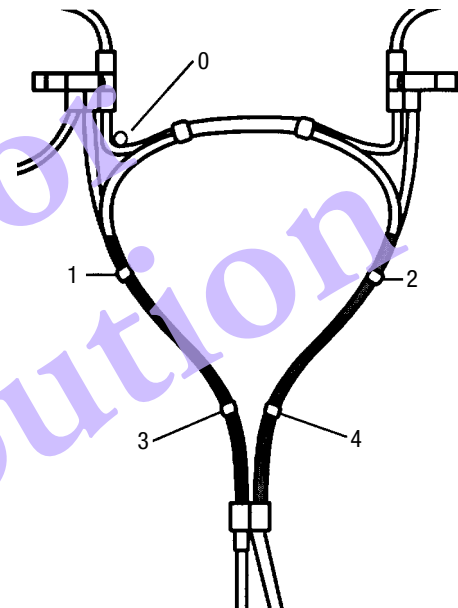

Figure 5-6: BMP Set clamp points 0 through 4
During the BMP procedure, you must place hemostats at various clamp points on the BMP set. The following instructions tell you when to place and remove the hemostats; Figure 5-6 illustrates the clamp points (0 through 4) as they are referred to in the instructions.
- 1** Clamp the BMP set at clamp point 0 (see Figure 5-6).
- 8 Remove the hemostat from clamp point 0 (see Figure 5-6).
- 10 Place a hemostat at clamp point 1 (see Figure 5-6).
During processing, the bone marrow is first drawn from bag A and moved to bag B. When the hemostat is moved from clamp point 1 to clamp point 2 (see Figure 5-6 on page 5-12), bone marrow is drawn from bag B and returned to bag A. This transfer between bags continues until the target volume (approximately three times the bone marrow volume) has been processed.